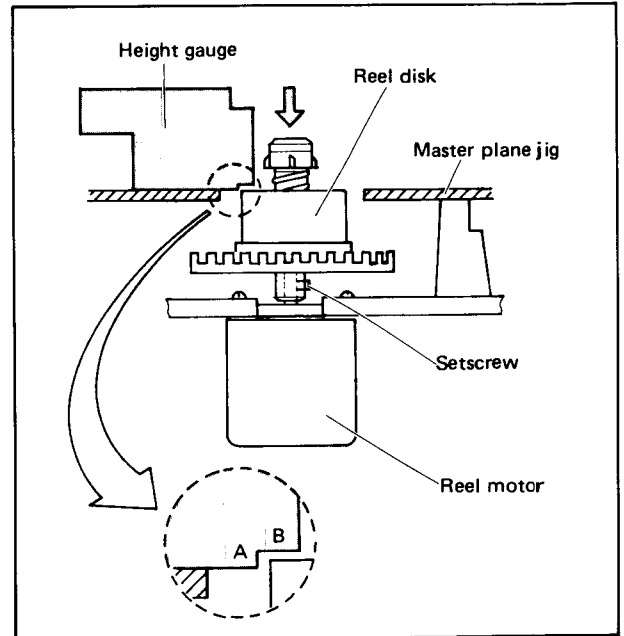

Fig. 4-24 Reel disk height adjustment
3. The correct height is between planes A and B, as shown in Fig. 4-24. If necessary, loosen the setscrew and adjust to the correct height.